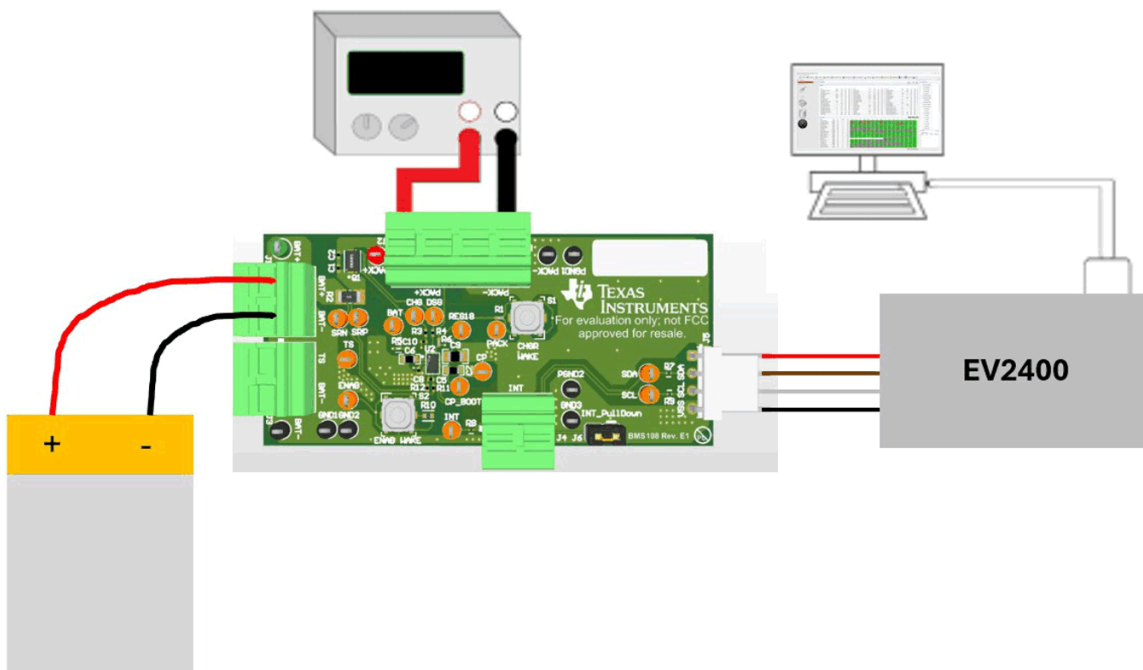
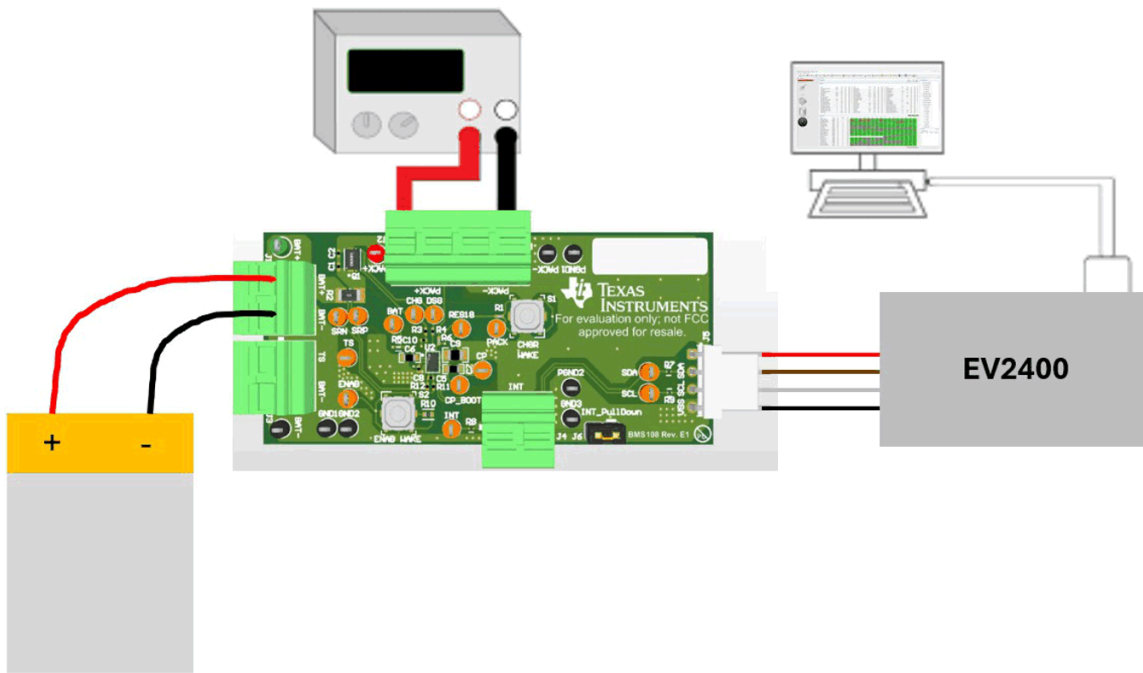

Figure 2-1. Connect the BQ27Z846 Circuit Module to a 1Sx1P
Figure 5-2. ChemID Hardware Setup
Figure 2-1 shows how to connect the BQ27Z846 circuit module to the battery, personal computer (PC), and a system load/charger.
Set up the EVM and other hardware as pictured in Figure 2-1. The BAT pins can be connected to a battery or a power supply, but the voltage of this source must be known to millivolt precision for accurate calibration. Inside of bqStudio, navigate to the Calibration window. Then, as shown in Figure 4-1, enter the precise value of the voltage source used, check Calibrate Voltage, and then press the Calibrate Gas Gauge button.
Start by setting this hardware up as shown in Figure 5-2. This setup is identical to Figure 2-1.